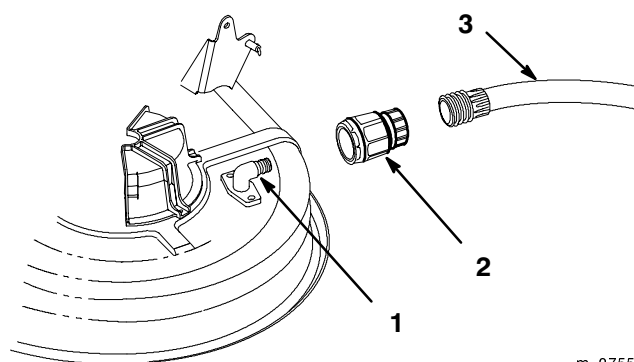

Figure 54
2. Screw coupling (not supplied) to the end of a garden hose, attach coupling to mower washout fitting and turn water on high (Fig. 54).